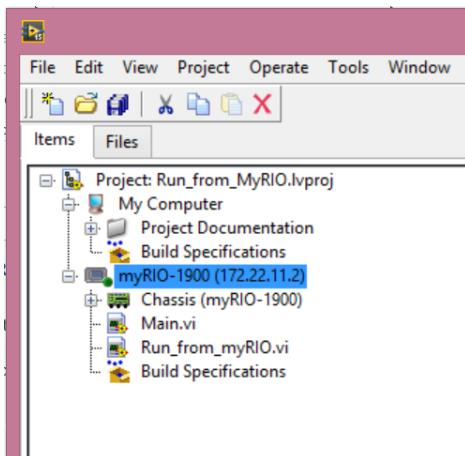

Fig. 2. LabVIEW project for real-time programming in myRIO.
- In LabVIEW, a project describes the hardware and software components. Hardware components are usually composed of a PC, and a real-time embedded system. Real-time system has a “**Chassis**” under which it has both a CPU, FPGA and some analog and digital ports. You can run a program (in our case a “.vi”) on a PC, on myRIO CPU or myRIO FPGA. The only thing you need to do to select the processing medium is to place your “.vi” under the selected medium. For example, if you want to run your .vi on myRIO CPU, you need to place your .vi under the myRIO Chassis. An example is shown in Fig. 2.